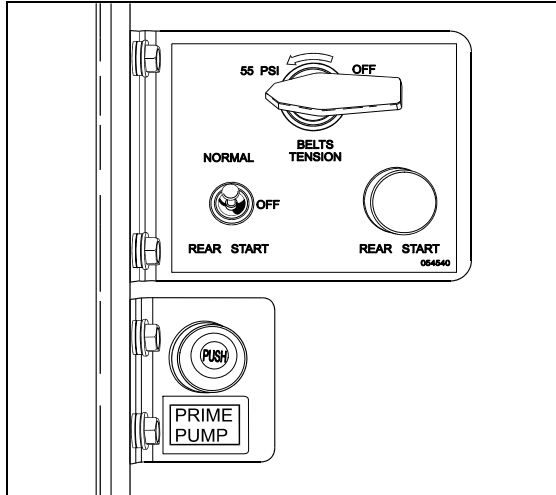

FIGURE 10: PRIME PUMP SWITCH LOCATION 03033
- If the vehicle is equipped with an optional priming pump see Figure 10.